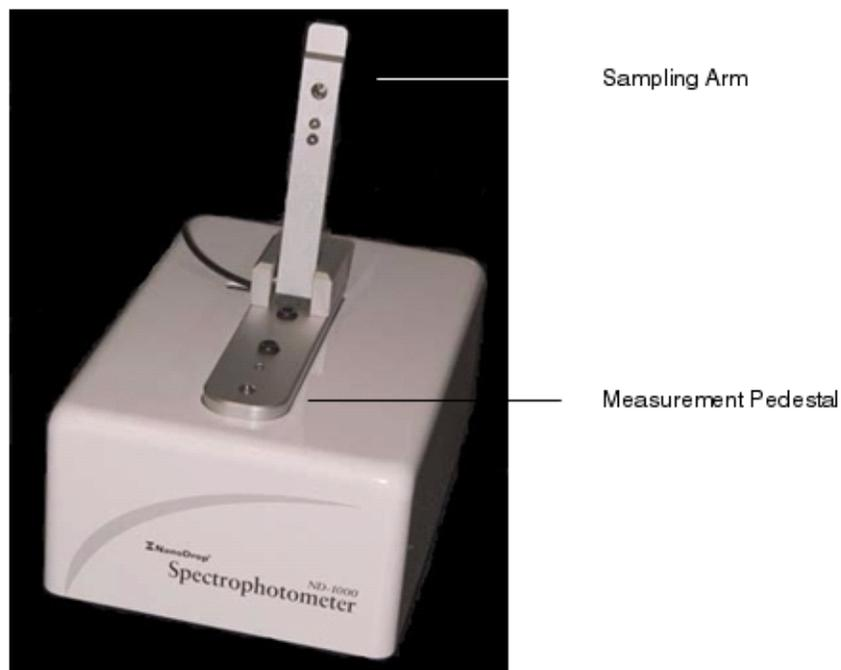

Figure 30 Components of the NanoDrop® ND-1000 Spectrophotometer.
4. Lift the sampling arm and load 2  $\mu\text{L}$  of nuclease-free water onto the lower measurement pedestal and lower the sampling arm (see Figure 30 on page 192).